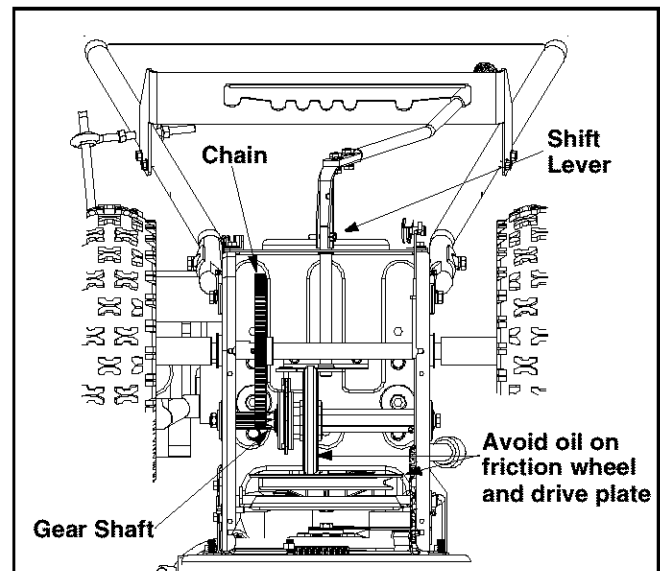

Figure 20
- Remove rear cover. Oil any chains, sprockets, gears, bearings, shafts, and shifting mechanism at least once a season. Use engine oil or a spray lubricant. Avoid getting oil on rubber friction wheel and aluminum drive plate. See Figure 20.